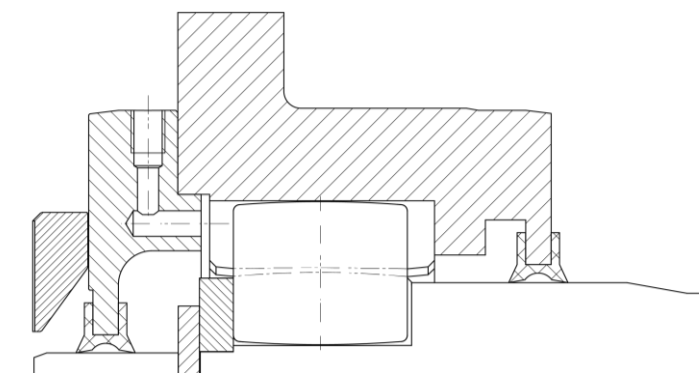

Fig. 3: Floating bearing design of the barrel coupling
Usually, the barrel rollers (item 3) have axial clearance in the coupling so that axial movement between rope drum and gear box is compensated. In such a design, the joint acts as a floating bearing, Fig. 3.